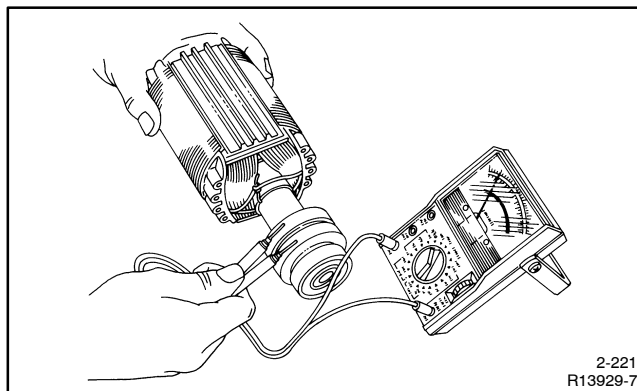

Figure 5-7 Rotor Resistance Check
5. Check the rotor for continuity and resistance. Raise the brushes from the slip rings while performing ohmmeter tests. Measure the rotor resistance (ohms) between the two slip rings; see Figure 5-7. See Section 1.4, Alternator Specifications, for rotor resistance readings. If the resistance readings are low, perform a megohmmeter test on rotor as described in the next step.